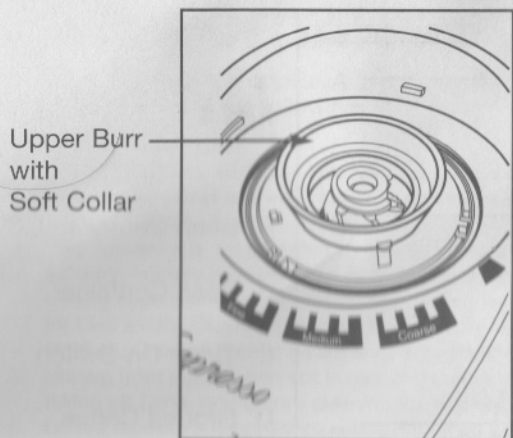

Fig. 4
4. Replace the upper burr. Make sure the soft plastic collar of the upper burr is in place (Fig. 4)